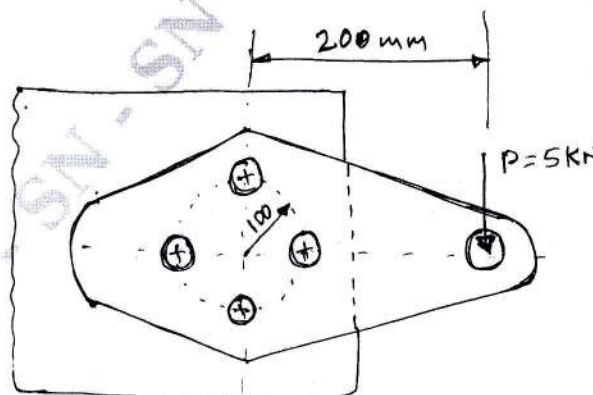

Fig.Q7(b)
- 6 a. A rectangular sunk key 14mm wide, 10mm thick and 75mm long is required to transmit 1200N-m torque from a 50mm diameter solid shaft. Determine whether the length is sufficient or not if the permissible shear stress and compressive stresses are limited to 56MPa and 168MPa. (06 Marks)
- b. A riveted joint is consisting of four identical rivets is subjected to an eccentric force of 5kN as shown in Fig.Q7(b). Determine the diameter of rivets, if the permissible shear stress is 60MPa.